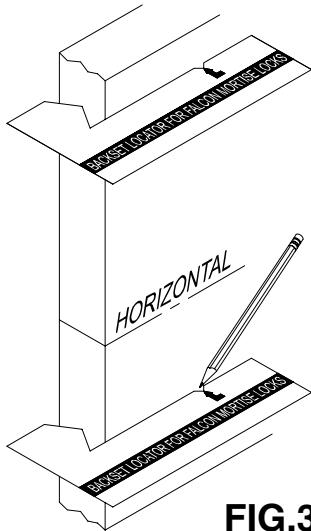

FIG.3-3
- b. Using the Backset Locator furnished, mark two points on each side of the Door, above and below the horizontal line. Refer to Fig. 3-3 Draw a vertical line through the two points on each side of the Door.